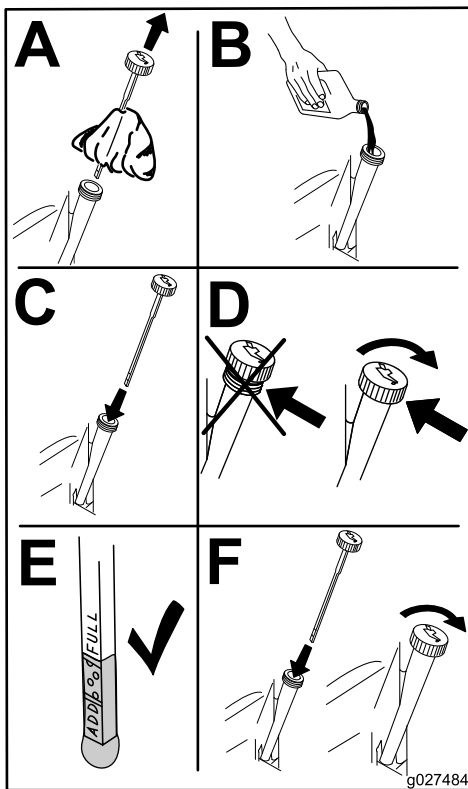

Figure 22
4. Slowly pour approximately 80% of the specified amount of oil into the fill hole (Figure 22).
5. Allow 3 to 5 minutes for the oil to settle, then check the oil level (Figure 22).